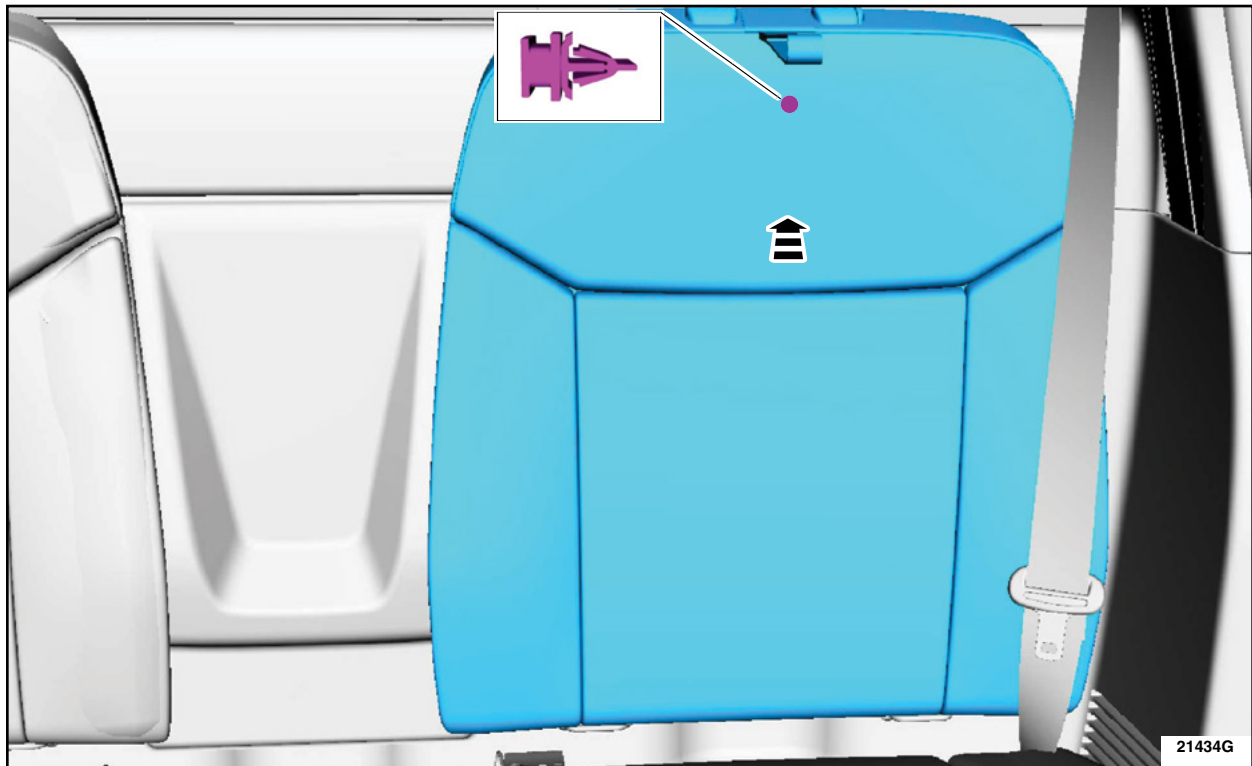

FIGURE 4
5. On both sides, release the clip and remove the rear seat backrest. See Figure 4.